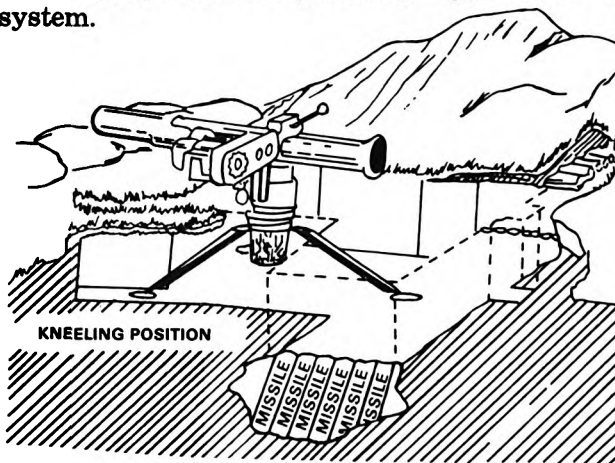

Figure 4.
b. To kneel the launcher: Kneel (lower) the launcher below ground level, as shown in figure 4, if you are being heavily suppressed or want to further conceal the system.